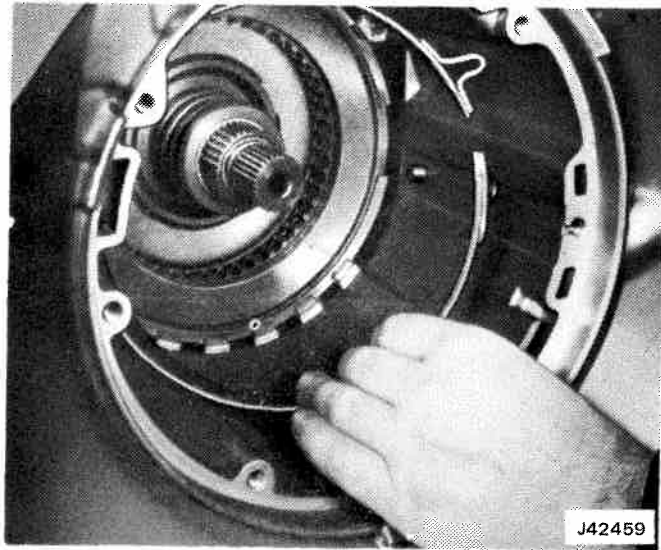

Fig. 7-29 Removing-Installing Front Band Assembly
(1) Remove front band assembly from transmission case (fig. 7-29).